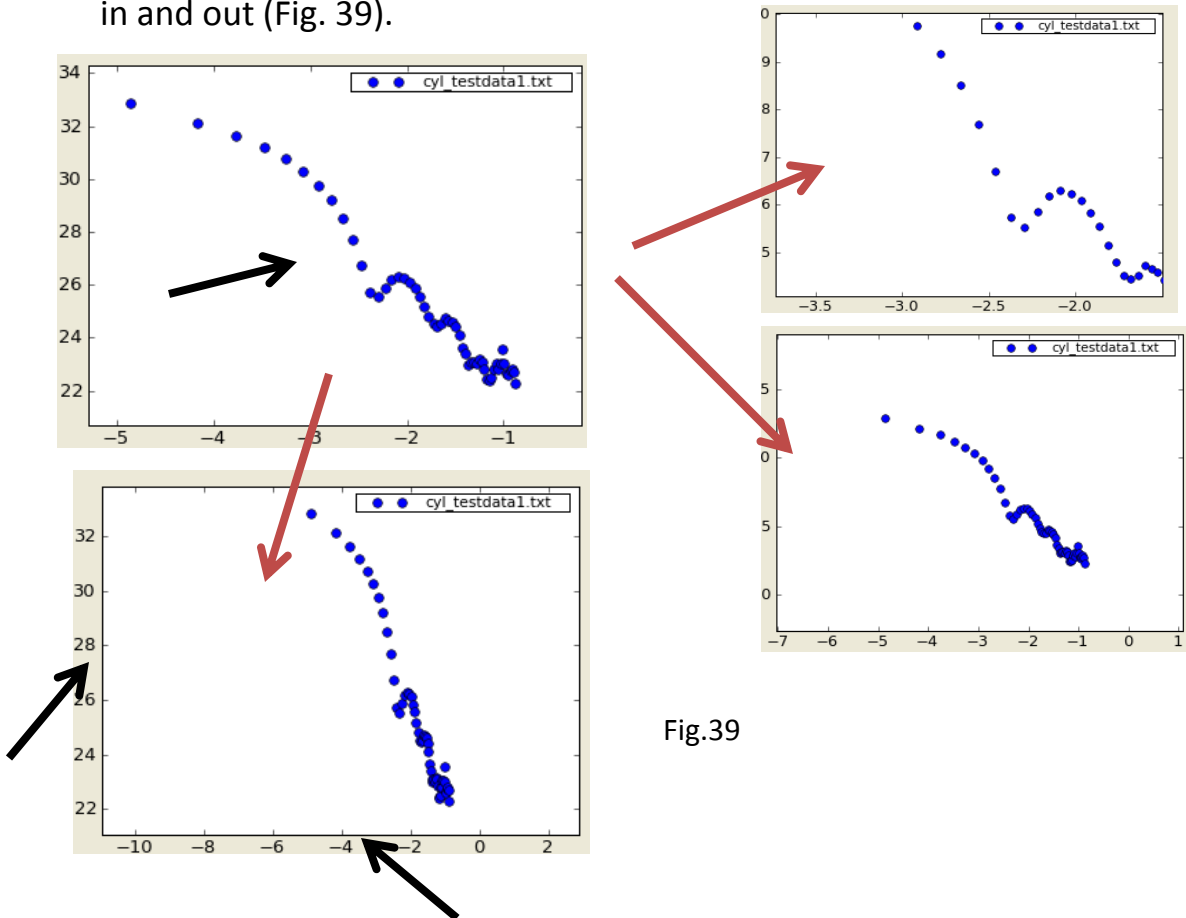

Fig.39
A) for both x- and y-axis; one-click in the plot panel, locate your pointer inside the axes then rotate the roller at the center of your mouse to zoom in and out (Fig. 39).
B) x- or y- axis separately; one-click in the plot panel, locate your pointer (black arrows in Fig. 39) somewhere between the axis line and label, and use the mouse roller to zoom in and out the axis as desired.